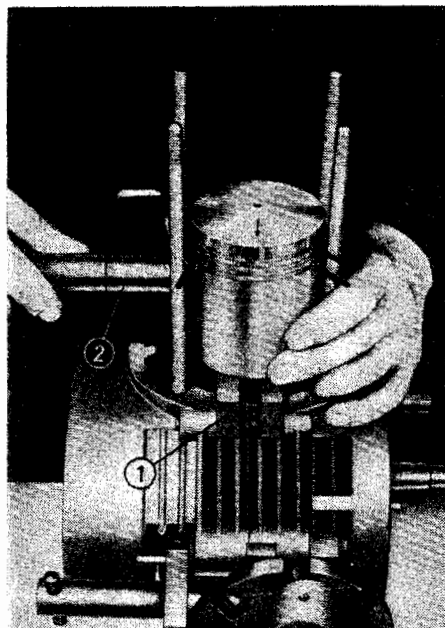

Fig. 65
During this heating time, fit the needle bearing selected in accordance with Fig. 46 (or find the correct one by trial) into the small-end boss — naturally apply a few drops oil. Mount the piston correctly. The arrow-head on the piston head (Fig. 65) must point in the forward direction. Turn the connecting rod in such a way that piston bore and connecting rod bore practically coincide when the piston rests on the piston support (1), No. 22-50.412. Then the 05-MW 19-4 guide mandrel (2) — with the tapered end forward to avoid damage to the needle bearing — is inserted together with the gudgeon pin into the hot piston. Gudgeon pin and guide mandrel must be in a cold state! If the temperature difference and thus the difference between the diameters of piston bore and gudgeon pin where too small, only use the 22-50.010 pusher for driving the jamming pin in place; blows will cause damage to the crankshaft!
Turn the piston rings in such a way that the locking pins are located between the ring butts (Fig. 65, long arrow-heads), otherwise the piston rings will jam inside the cylinder. Do not omit the base gasket!